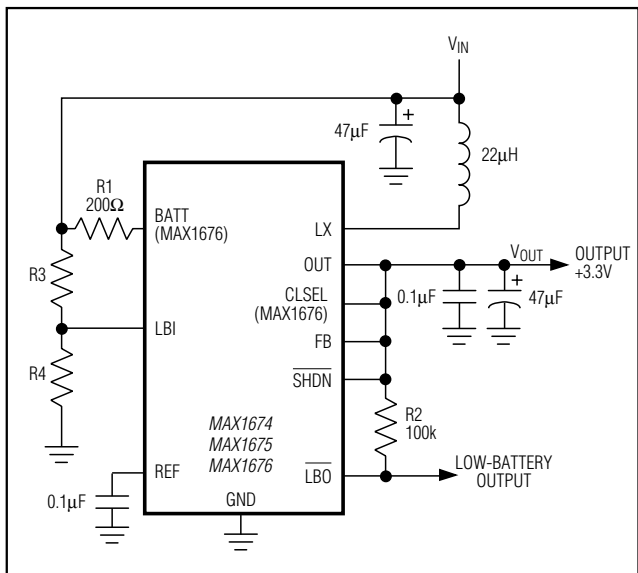

Figure 5. Preset Output Voltage of +3.3V
**Note 2:** Steady-state output current indicates that the device maintains output voltage regulation under load. See Figures 5 and 6.
$V_{OUT}$  can be set to 3.3V or 5.0V by connecting the FB pin to GND (5V) or OUT (3.3V) (Figures 5 and 6).
The MAX1674/MAX1675/MAX1676 contain an on-chip comparator for low-battery detection. If the voltage at LBI falls below the internal reference voltage (1.30V),  $\overline{LBO}$  (an open-drain output) sinks current to GND. The low-battery monitor threshold is set by two resistors, R3 and R4 (Figures 5, 6, and 7). Since the LBI current is less than 50nA, large resistor values ( $R4 \leq 260k\Omega$ ) can be used to minimize loading of the input supply. Calculate R3 using the following equation: